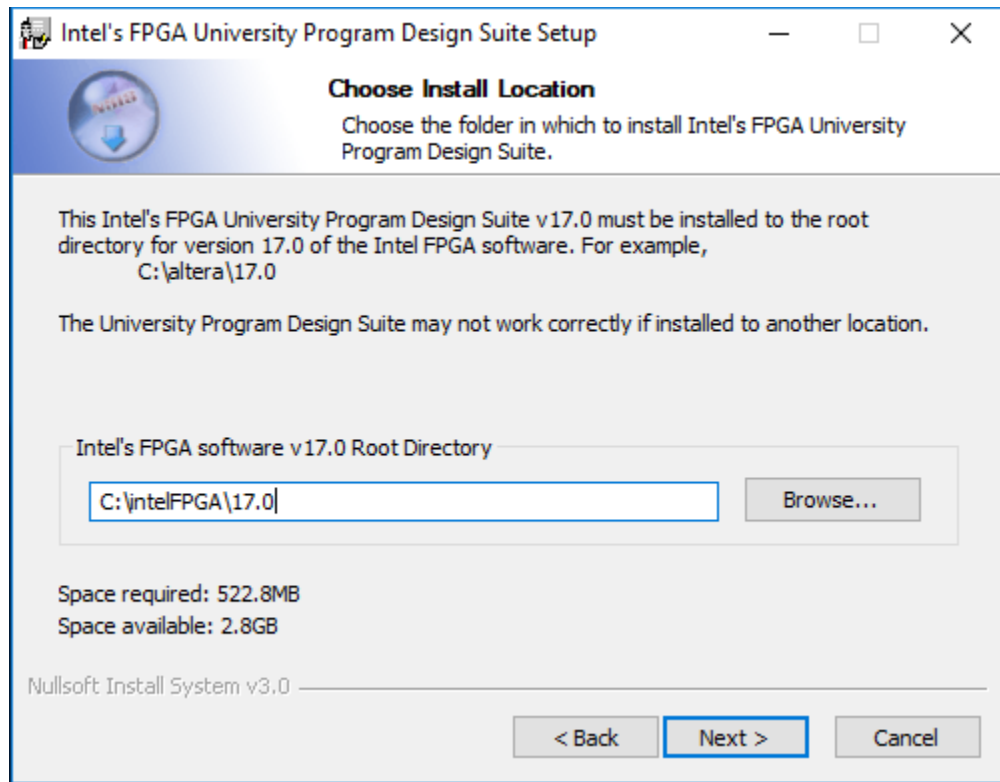

Figure 2. The components that will be installed.
5. The next screen, shown in Figure 2, lists the components that will be installed, which include the Monitor Program software and University Program IP Cores. These IP Cores provide a number of I/O device circuits that can be used in hardware systems to be implemented on the FPGA board.